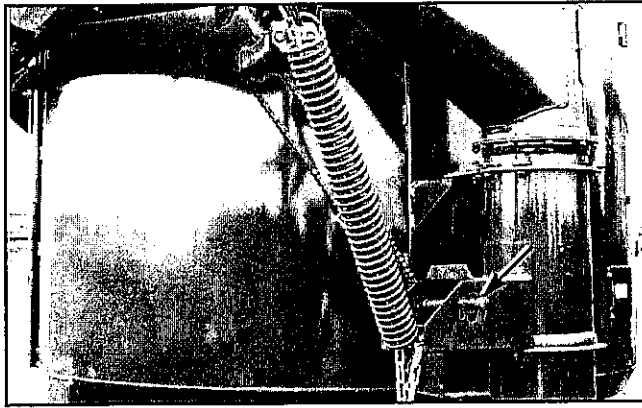
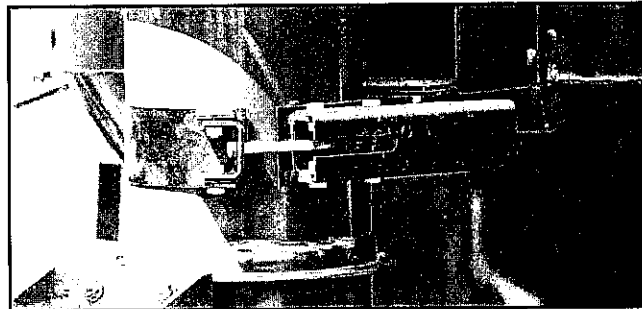

Figure 26: Manual lift.
Figure 28: Manual brake.
1. **MANUAL CRANK:** (See Figure 26 and 27, page 19) Insert crank on the shaft next to channel to lift, and on the shaft at the rear of lower auger housing to swing the unloading auger. A brake is provided to prevent movement after positioned (see Figure 28, page 19).